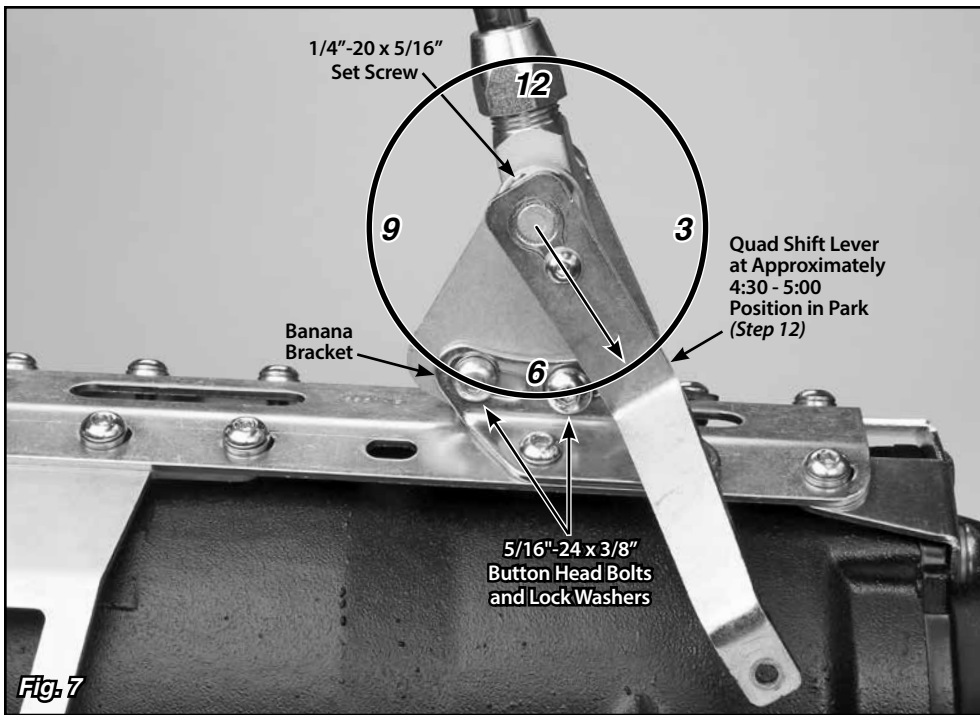

Fig. 7
Step 11: Make sure the two 5/16"-24 x 3/8" button head bolts and lock washers that attach the driver side banana bracket to the shifter assembly (in the curved, slotted holes) are tight. Before tightening the shifter assembly down to the main plate, move the shifter lever through all the gear positions. Make sure the shifter lever and knob will not come in contact with the dash or the seat. The shifter assembly can be tilted forward or backward if needed by loosening the 5/16"-24 x 3/8" button head bolts and lock washers in the curved, slotted holes in the driver side banana bracket. **Fig. 7**
Step 12: Make sure the shifter lever is in the Park position. Temporarily place the quad shift lever in position on the quad lever bushing as shown in **Fig. 7**. Check for interference with the vehicle floor. With the shifter lever in Park, the quad shift lever should be pointing towards approximately the 4:30 - 5:00 position.